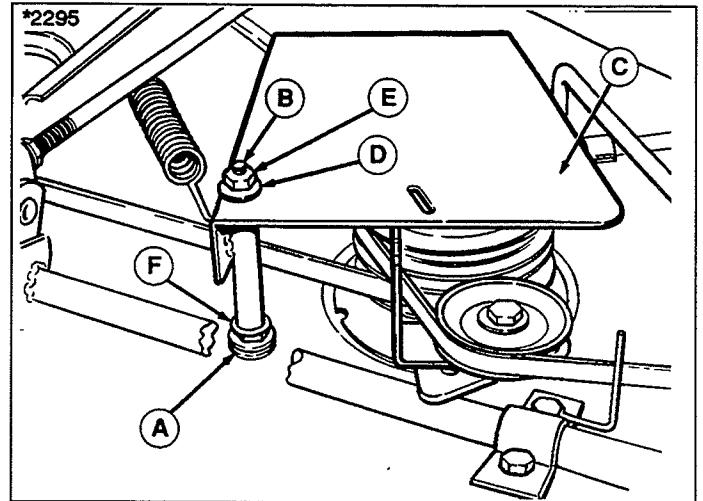

Figure 7.
13. See figure 7. Install Two large flat washers (A) and long stud (B). Do not overtighten stud.
14. See figure 7. Install washer (F) on stud (B). Install belt cover (C) and secure with washer (D) and nut (E). Tighten nut so there is slight resistance when cover is rotated on the stud.